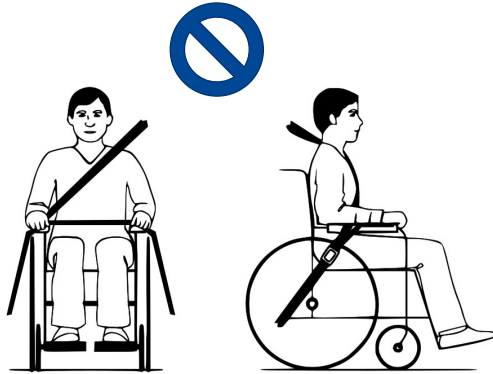

Figure 3 Improper belt-restraint fit
6. Make sure that belts are not twisted or held away from the body as shown in figure 3.